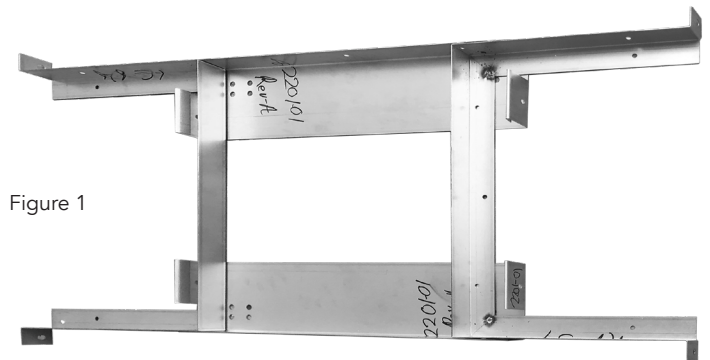

Figure 1
1. Lay the four sheet metal parts flat on the floor. Lay the left and right part(s) at the approximate width of the base, apart from each other. Figure 1.